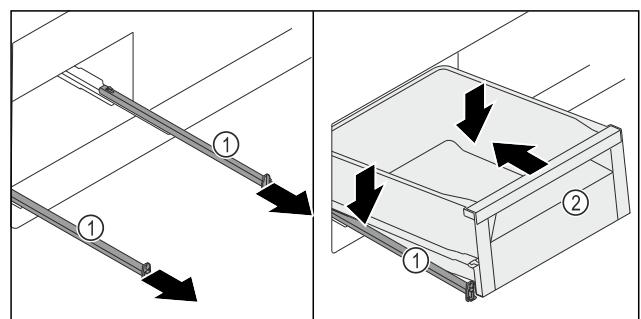

Fig. 136
- ▶ Pull out the rails Fig. 136 (1).
- ▶ Hold the rails Fig. 136 (1) firmly and place the drawer Fig. 136 (2) diagonally on the rails Fig. 136 (1) from above.
- ▶ Slide the drawer Fig. 136 (2) backwards on the rails Fig. 136 (1) as far as it will go.